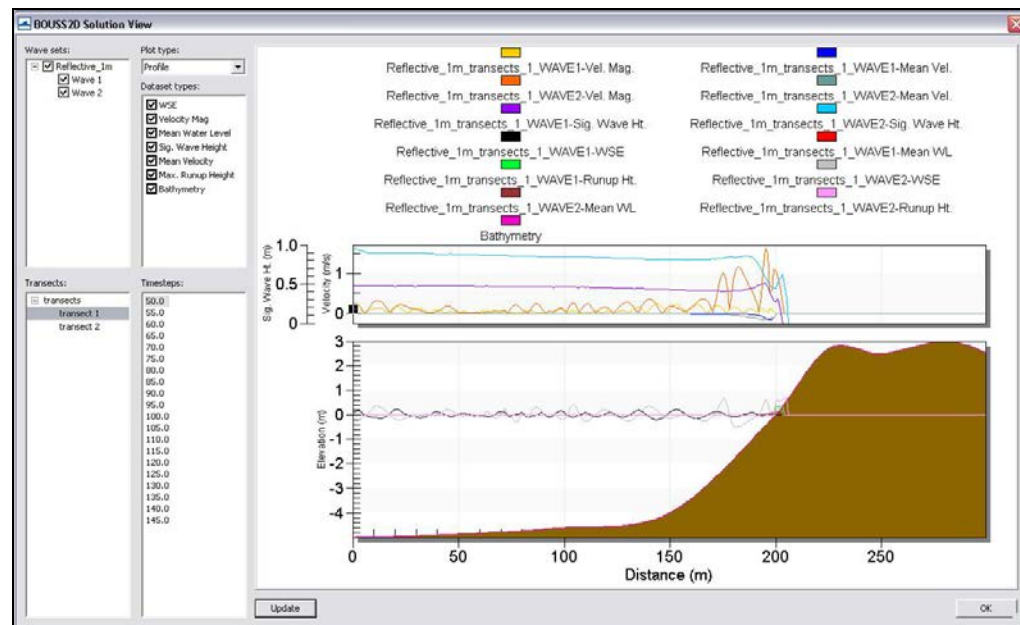

Figure 16 Bouss2D Runup / Overtopping Solution View.
5. Click the update button. Figure 16 shows the solution profile plots for Transect 1 for both wave cases for all Dataset types.